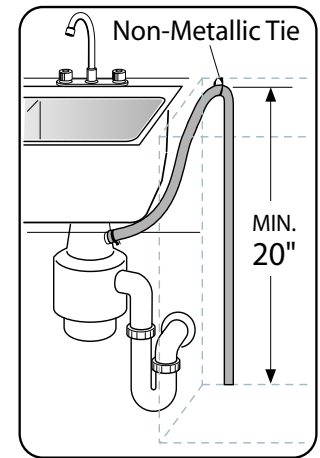

Figure 9
2. Directly to a disposer dishwasher drain connection, as shown in **Figure 9**.